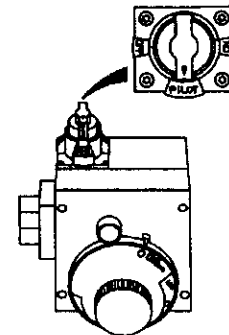

Figure 7
8. If you don't smell gas, turn knob on gas control counter clockwise (↻) to "PILOT" position. (Figure 7, page 17)